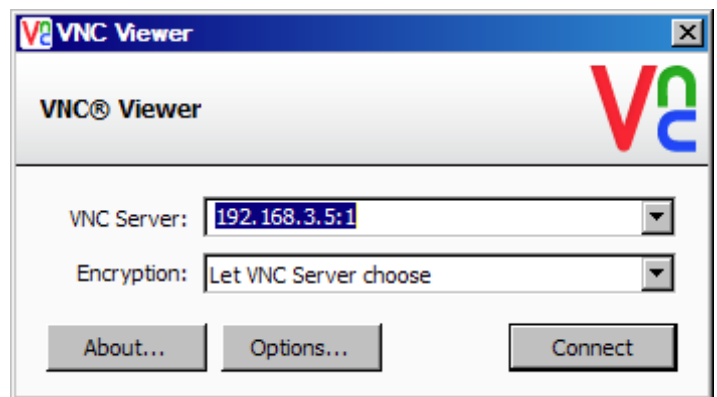

Fig. 134: VNC Viewer - Intranet
- Intranet Example:** If the IP address assigned is 192.168.3.5 and the configured VNC Address is 1, from the PC's VNC Viewer address field, enter "192.168.3.5:1" to access the device (address 1 relates to port 5901, address 2 to port 5902, etc., which is the port opened by the VNC interface in order to allow communications with Touch Screen over the network (Fig. 134).